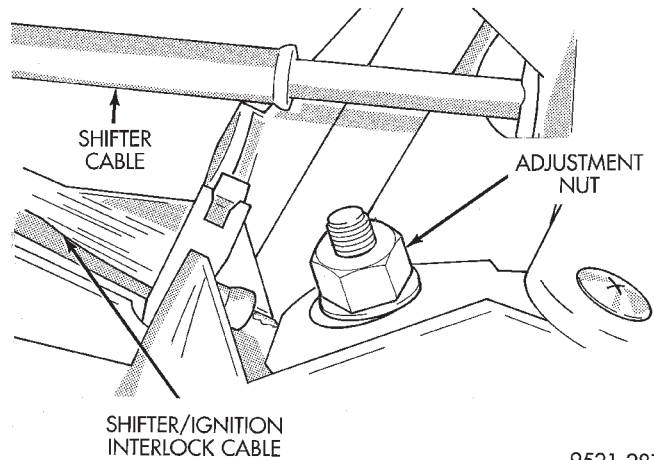

Fig. 249 Interlock Cable Adjuster Nut
- (1) Disconnect and isolate, the battery negative (-) cable from the vehicle battery.
- (2) Remove the gearshift knob set screw and knob.
- (3) Remove console assembly. Refer to Group 23, Body.
- (4) Loosen the adjustment nut on the interlock lever (Fig. 249).